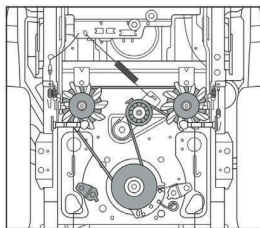

FIG.27A
2. REMOVA OS PARAFUSOS DE FIXAÇÃO (A, FIG.27A) DA EMBREAGEM ELETROMAGNÉTICA (B FIG.27A).
4. REMOVA A RODA TENSORA (D, FIG. 27A).
5. REMOVA A MOLA DE TENSÃO (E, FIG. 27A).
(F, FIG. 27A)